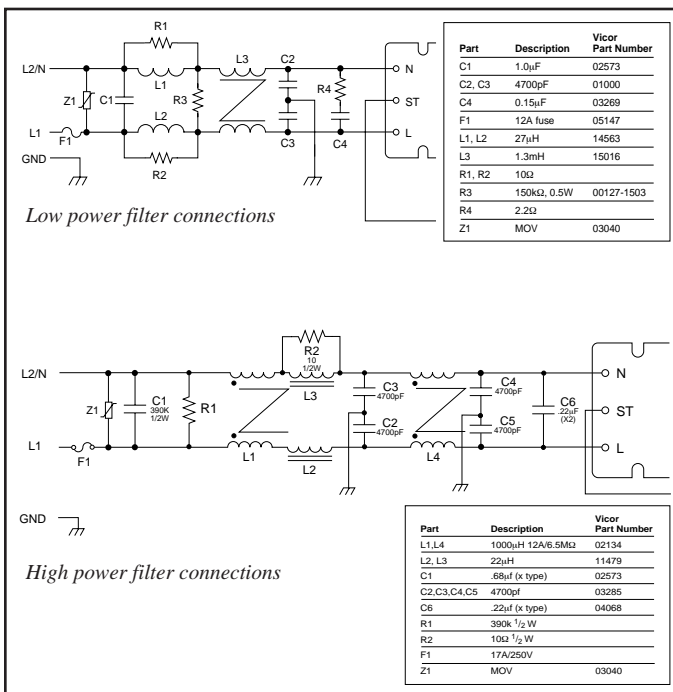

Figure 11—Filter connections
**Filter.** Two input filter recommendations are shown for low power VI-ARM-1 and high power VI-ARM-2 (See Fig. 11). Both filter configurations provide sufficient common mode and differential mode insertion loss in the frequency range between 100kHz and 30MHz to comply with the Level B conducted emissions limit.